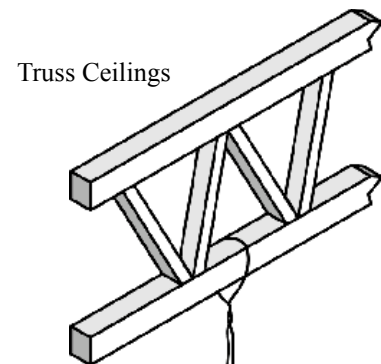

Figure 7. Truss Anchoring
- **Truss Ceiling.** Attach the tie wire to the turnbuckle and loop its upper end around the ceiling truss. Pull the tie wire tight and twist it around itself at least four times. No additional anchor is required (see Figure 7).